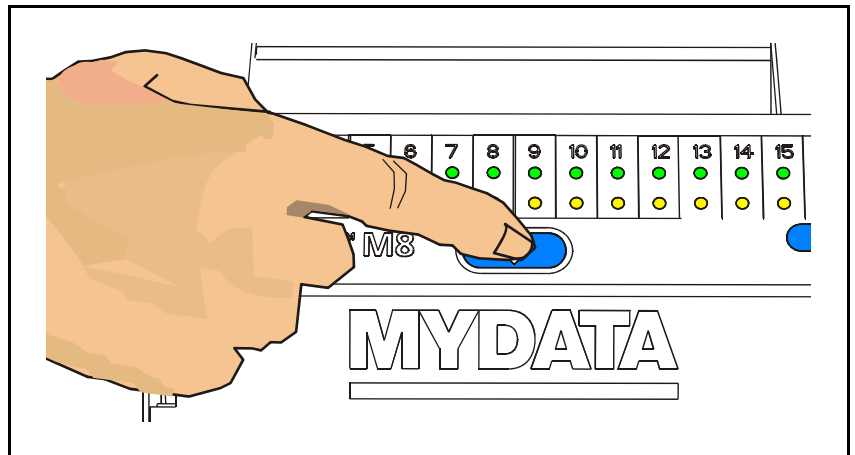

Figure 5-23. Pressing the release button.
1. Press the release button on the magazine panel, see Figure 5-23. The machine will stop picking components from the magazine.